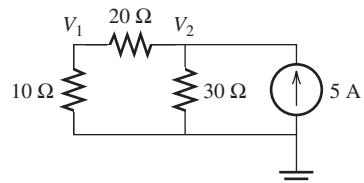

FIGURE P3.35 Circuit for Problem 3.35.
- 3.35 (B)*** Find V_1 and V_2 in Figure P3.35.